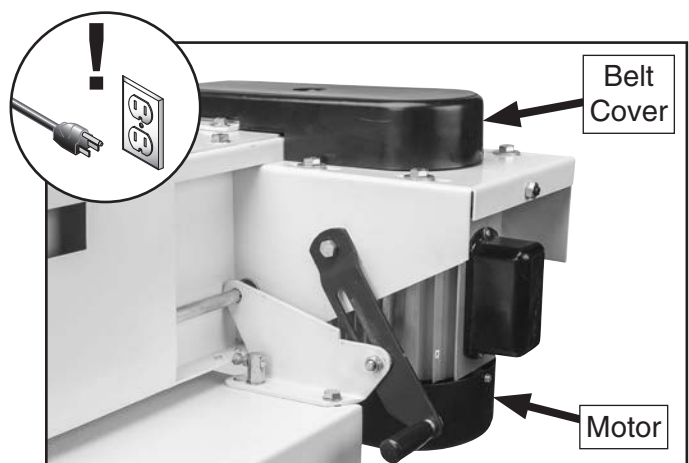

Figure 54. Belt cover location.
3. Remove belt cover (see **Figure 54**).